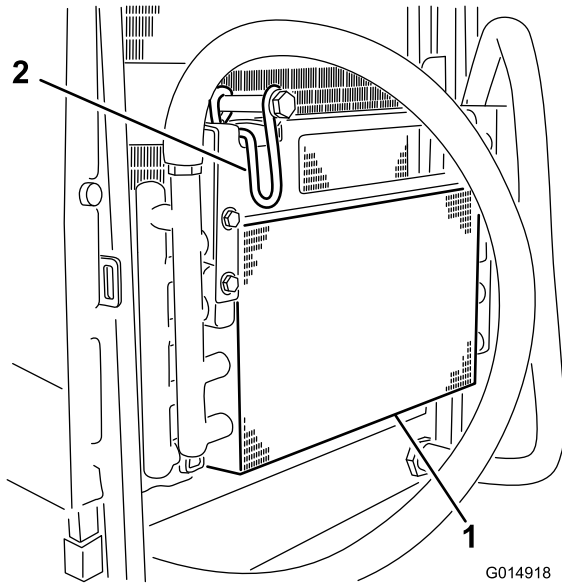

Figure 42
6. Pivot the latch inward to release the oil cooler (Figure 42).